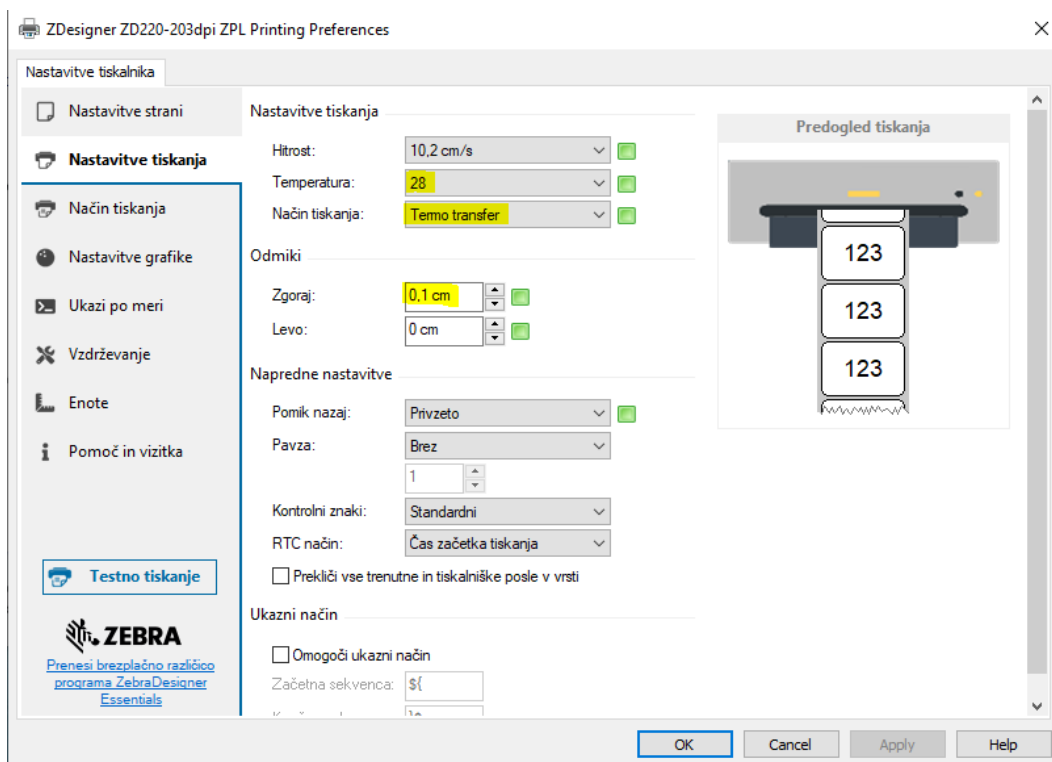

Figure 4: Printing settings
- Figure 4: Printing settings3
Once you edit the **Page Setup**, select the **Printing Settings**, and adjust the temperature, check the printing mode, and, if necessary, change the offset (see Figure 4).